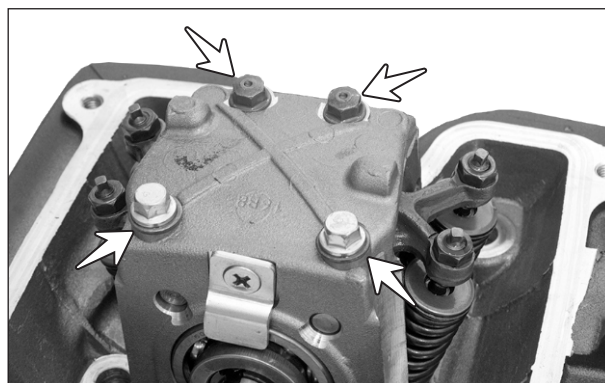

Fig. 3.46
- Remove hexagonal flange bolt (M6x25 - 4 nos.) from the mounting of cylinder head assembly. (Fig.3.46)